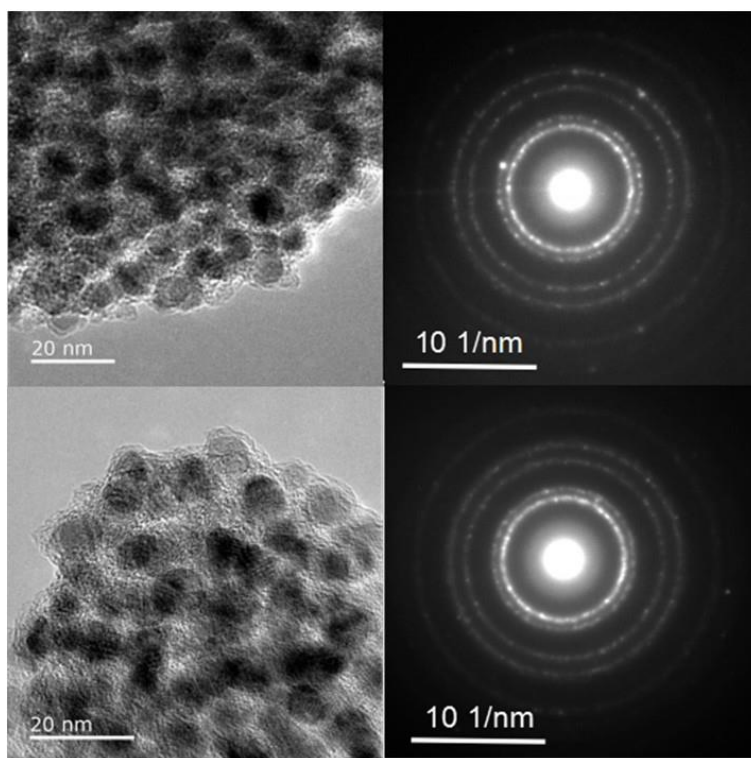

Fig. S6 TEM images and Selected Area Electron Diffraction (SAED) patterns of Ni@C-400 (top) and Ni@C-500 (bottom).
- VI. **Fig. S6** TEM images and Selected Area Electron Diffraction (SAED) patterns of Ni@C-400 (top) and Ni@C-500 (bottom).